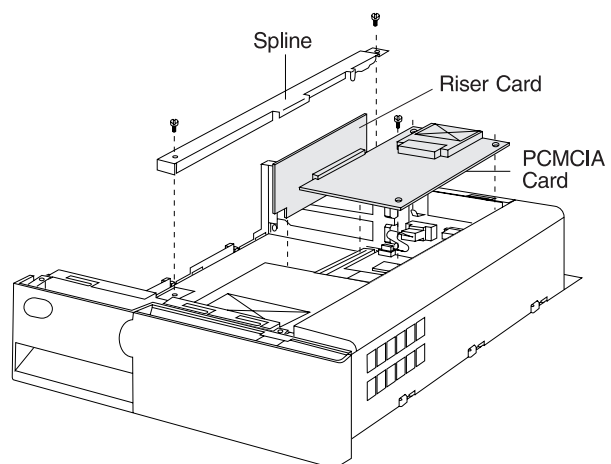

Figure 2-5. Riser Card and PCMCIA Card Removal
- 2 Remove the spline from the chassis. See Figure 2-5 on page 2-14.